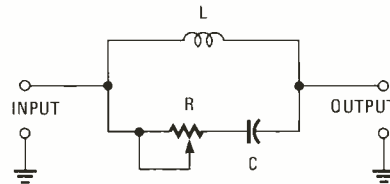

FIG. 6
8. Increasing the size of R in Fig. 6 will have what effect?